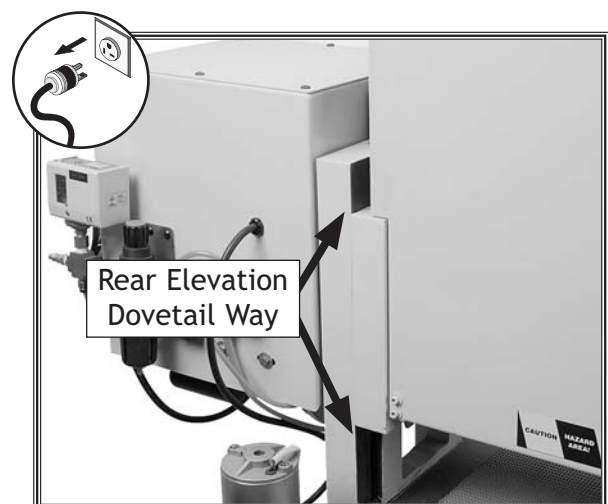

Figure 24. Elevation dovetail way (rear way shown).
2. Raise and lower the sanding cabinet to access the entire length of the front and rear elevation dovetail ways (see Figure 24).